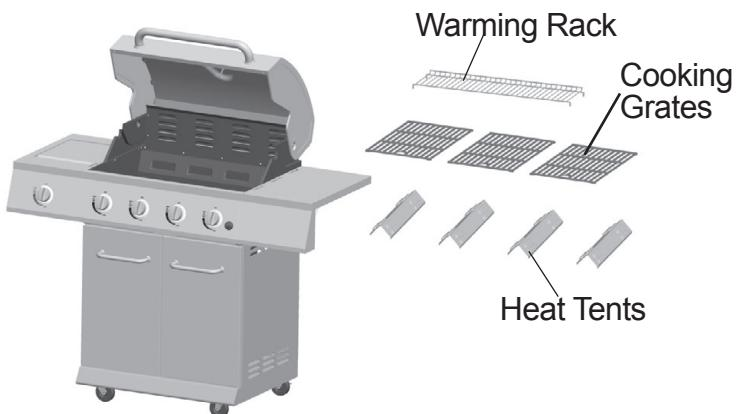

Figure 1
3. Remove hinge pin as illustrated in Figure 1. Remove the 2 screws that secure the igniter electrode to the burner as illustrated in Figure 2.